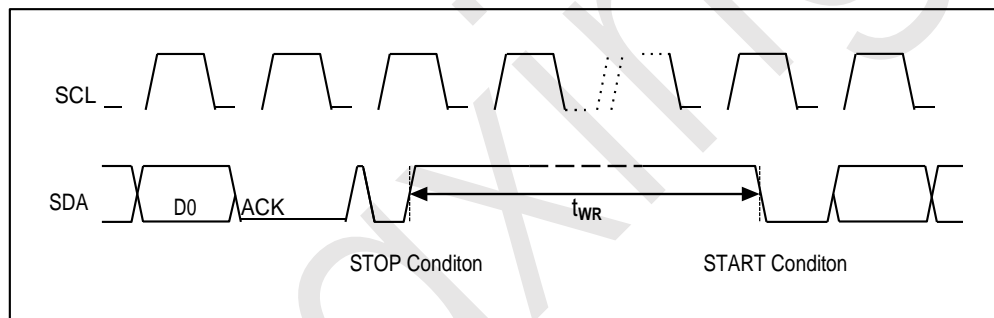

Figure 4-6
4.1.8 、 Write Cycle Timing(see to Figure 4-6)